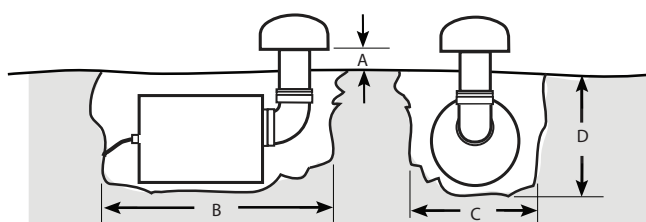

Figure 2
2. Dig the hole using the guide. See Figure 2